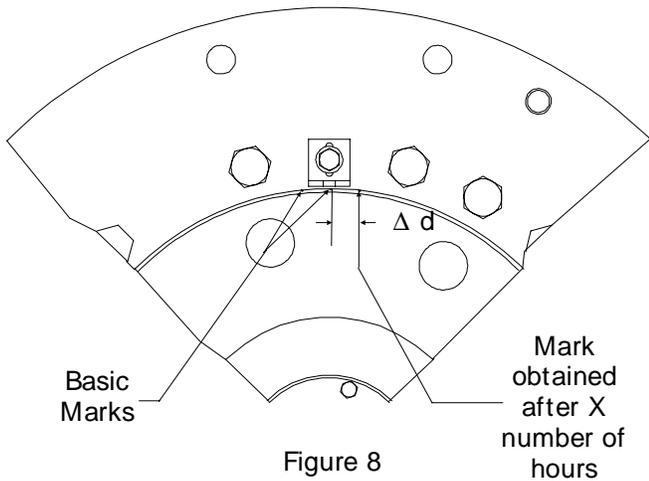

Figure 8
- 2.6.5 Eventual wear at the ends of the long spring leaves or at the splined hub groove flanks will likely appear in the forward direction. The angular amplitudes in this direction can, therefore, increase after hours of service. The difference between the latest mark obtained and the "basic mark" is proportional to the existing wear. Refer to Figure 8.
$\Delta d$  = Difference of marks between the "basic mark" and the latest measurement. See Figure 8.